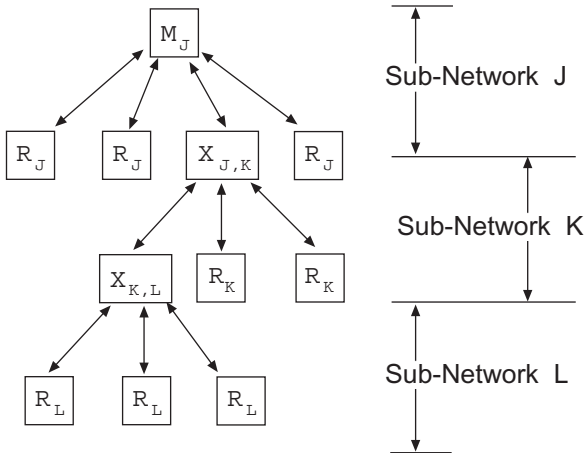

**Figure 19. Simple Extended SAF Network**
Figure 19 depicts a two-level network utilizing a single Master (M) and an Extension (X) radio. In this network, messages directed to Remotes in the “K” sub-network, will be relayed through Extension radio  $X_{j,k}$  to the K-Remotes. Any response from a Remote in sub-network “K” will pass back through Extension radio  $X_{j,k}$  to the Master  $M_j$ . Radios in sub-network “J” operate on the same set of frequencies and sub-network “K” but with a different radio-frequency hopping pattern.